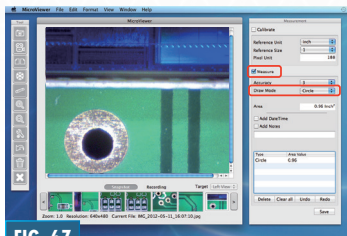

FIG. 67
2. Check the "Measure" box (**Fig. 67**).